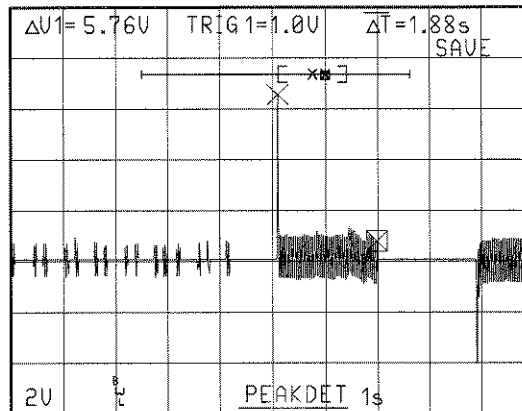

Figure 3-13: 4K Acquisition, 1K Window
- ☐ **Step 1:** Go to the **STORE** mode and display the signal in the 4K mode (Figure 3-13).